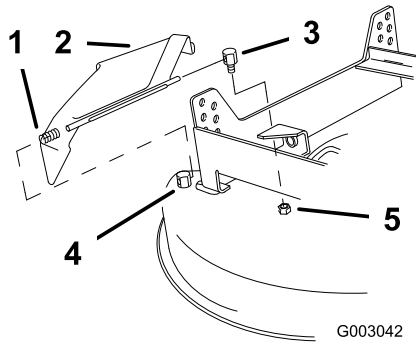

Figure 57
1. Remove the locknut holding the rear deflector pivot post to the mower and remove the rear pivot post (Figure 57).
2. Remove the deflector assembly from the front (fixed) deflector pivot post and remove the deflector assembly from the mower (Figure 57).
5. Install the rear deflector pivot post onto the mower and tighten the locknut (Figure 57).